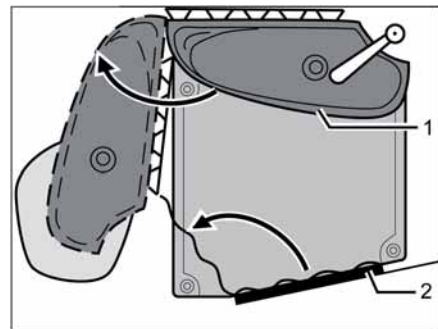

Fig. 294 Vario toilet
- Turn the wash basin and the rear wall (Fig. 294,1) in the direction indicated.
- Enter the toilet compartment and close the toilet door (Fig. 294,2) from the inside and lock.